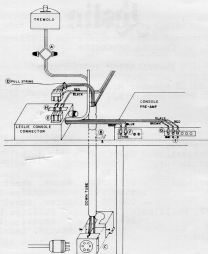

Figure 1. Console Connector Kit Installation
3. Mount the console connector chassis inside the organ within reach of the down tube (B, figure 1), organ pre-amplifier, and tremolo switch control cable. Use the cadmium plated screws provided.
4. Connect the tremolo control cord to the AC type wires from the console connector, using the wire nuts provided (A).